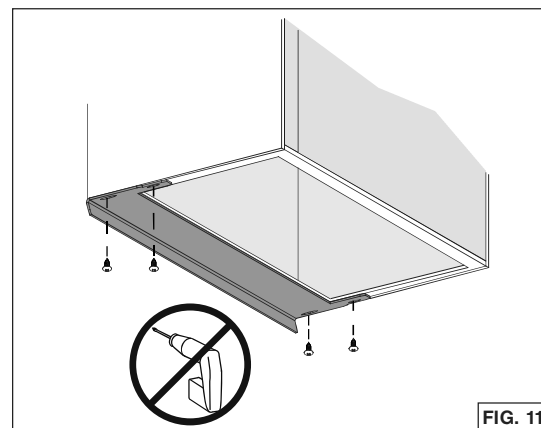

FIG. 11
8. There are 3 different sizes of filler included with these units, designed to fit up to 13-in. depth cabinets. For up to 15-in. depth cabinets, another set of 4 fillers is available (for BBN1243SS unit: HADTBN24, for BBN1303SS: HADTBN30). Choose the filler that fits to cover the back bottom edge of the cabinet. Use 4 no. 6 x 3/4" truss head wood screws (included) to mount it (FIG. 11).